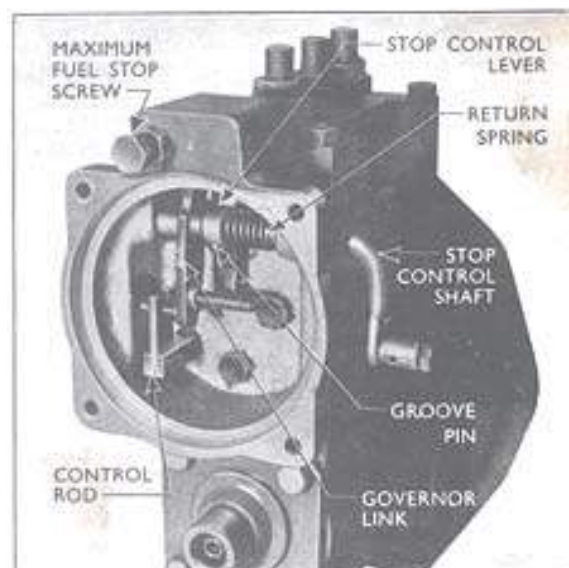

Fig. 13
3. Drive out the groove pin securing the stop control lever to the stop control shaft (see Fig. 13).